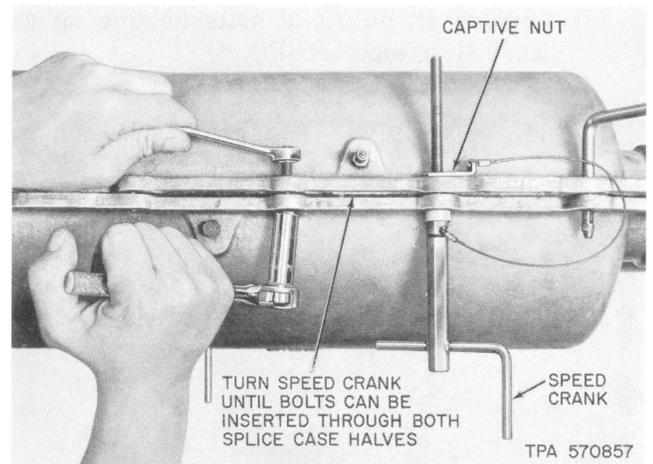

Fig. 3—Tightening Bolts
- (e) Use end wrench and socket to complete the tightening sequences of all nuts and bolts (Fig. 3)